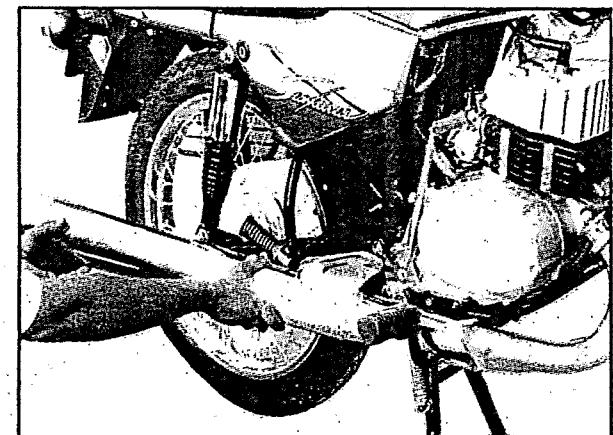

Fig 4.12
- Remove the muffler (fig 4.12)